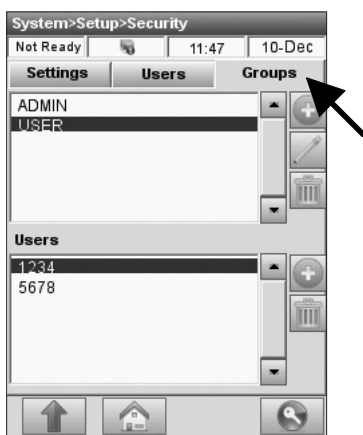

Fig. 3-53 Groups
1. Select the **<Groups>** tab in the **<System> Setup>Security>** menu (Fig. 3-53).
2. To add a new user group, press  in the top section of the screen (Fig. 3-53).